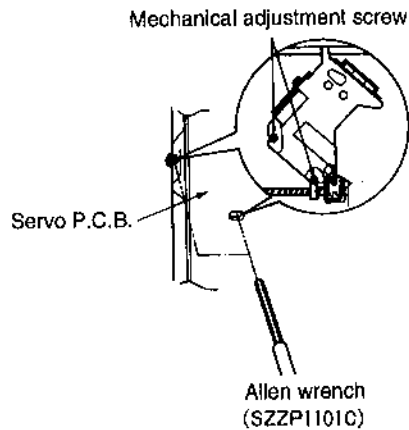

Fig. 3
4. Alternately adjust the two mechanical adjusting screws with the 2.0 mm allen wrench (SZZP1101C) until the RF signal amplitude on the oscilloscope is maximize. (Shown in Fig. 3)